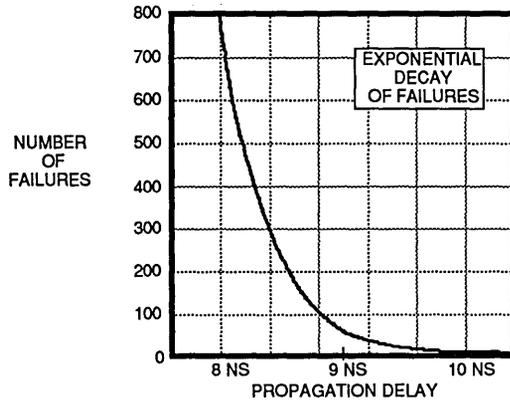
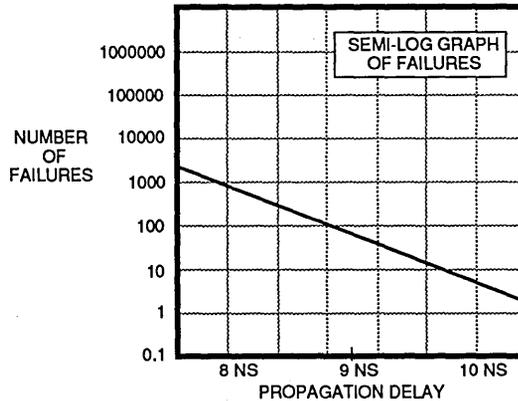
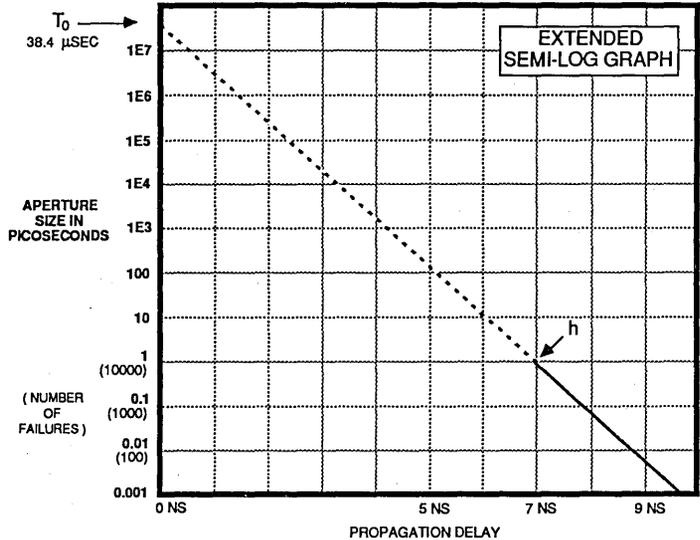

Figure 1
Figure 2
Figure 3
The first measurement we take is to determine the number of times the device is still in a metastable state 8 ns after the clock edge. With this device there are 792 failures after 1 billion clock cycles. Changing the time to 9 ns we measure 65 failures after another 1 billion cycles. Because metastability resolves as an exponentially decaying function the two points define the exponential curve and they can be plotted as shown in Figure 1. An equivalent plot can be made using a semilog scale as in Figure 2. The slope of the line drawn through the two points represents tau. With these two points the tau can be determined by equation (1):
By the same reasoning the window at 8 ns appears to be 0.0792 picoseconds wide. It seems to have grown because there are, of course, more failures after 8 ns than after 9 ns. This aperture has been normalized by researchers to indicate the effective size of the aperture at the clock edge, or time zero. Unfortunately the normalization process tends to obscure the interpretation of T_0 . T_0 can be calculated using equation (3). Figure 3 is an extension of Figure 2 and shows the relationship of T_0 , h , and tau.
Figure 3 is an extension of Figure 2 and gives a graphic indication of T_0 . The number of failures plots on the same scale as the aperture size but the number of failures is dependent on the number of clock cycles used in the test (we always used 1 billion in this paper) and the ratio of data transitions to clock pulses (1:1 in this paper). On the other hand, the aperture size is independent of these things.